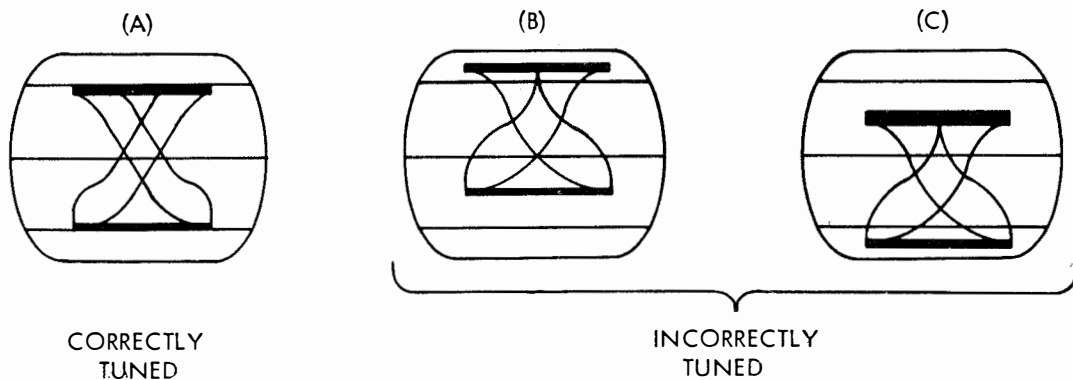

Figure 3-2. Tuning Indicator Patterns
(1) BEFORE USE. - Ascertain if equipment is connected for diversity or single-receiver operation. Allow the associated receivers and teletype printer(s) to warm up (see applicable technical manuals). Turn the converter POWER switches to the On (up) position and allow a five minute warmup period.
(2) DURING USE. - Adjust converters and associated equipment as directed in paragraph 3-2g(1) for single-receiver operation or paragraph 3-2g(2) for diversity operation.
(3) SECURE. - To secure the AN/URA-17C, turn POWER switch on each converter to Off (down) position.
d. INDICATOR PRESENTATIONS. - Figure 3-2 illustrates the tuning indicator displays obtained when the associated receiver is properly tuned (A) and when the associated receiver needs retuning (B or C).
(1) SINGLE-RECEIVER OPERATION. - The need for retuning the associated receiver to compensate for frequency drift can be determined by observing the converter tuning indicator pattern (figure 3-2). If the pattern departs from that in (A) of figure 3-2, retune the receiver.
(2) DIVERSITY OPERATION. - Retuning the
(2) INDICATOR PRESENTATION. - Refer to figure 3-2 for tuning indicator presentations during receiver tuning.
(1) SINGLE-RECEIVER OPERATION. - Either converter may be adjusted for single-receiver operation, as follows:
bandwidth to approximately 800 cps for narrow-shift signals or to approximately 3 kc for wide-shift signals. Tune receiver until strongest beat-note is heard in headphones plugged in receiver headphone jack. Adjust receiver tuning for symmetrical, vertically centered pattern on tuning indicator (as in (A) figure 3-2). There are sometimes two receiver tuning positions that give a proper tuning indication; always select the stronger. Adjust audio output of receiver to 60 milliwatts.
(2) DIVERSITY OPERATION. - Each converter of the AN/URA-17C is adjusted for diversity operation as
- Step 7. Tune associated receiver to desired rf signal. Set receiver bandwidth to approximately 800 cps if narrow-shift signals are being received or to approximately 3 kc if wide-shift signals are being received. Tune receiver until strongest beat-note is heard in headphones plugged in receiver headphone jack. Adjust receiver tuning for a symmetrical, vertically centered pattern on tuning indicator (as in (A) figure 3-2). There are sometimes two receiver tuning positions that give a proper tuning indication; always select the stronger. Adjust audio output of receiver to 60 milliwatts.
- (1) Turn receiver and teletype printer power switches to On.
- (2) Set converter controls as follows: